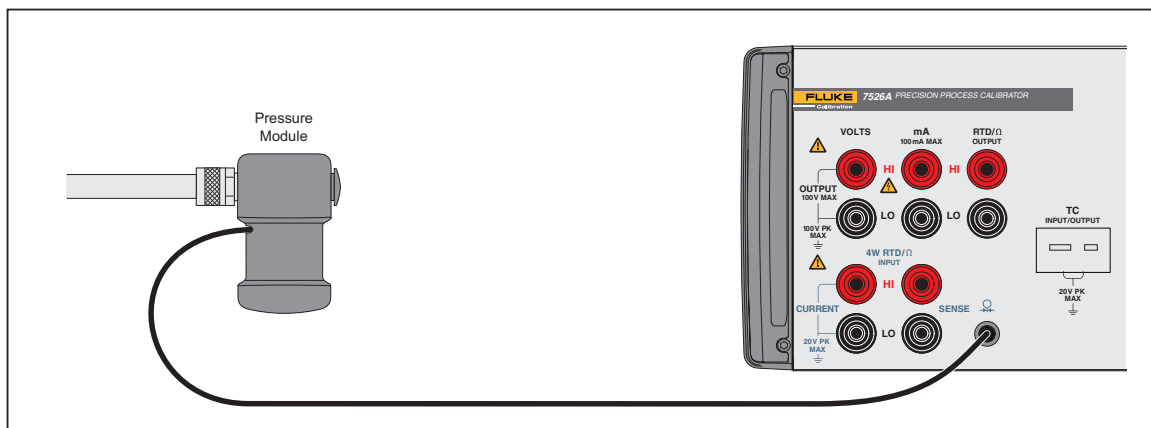

Figure 2-7. Pressure Module Connection
1. Connect the pressure module to the Product as shown in Figure 2-7.